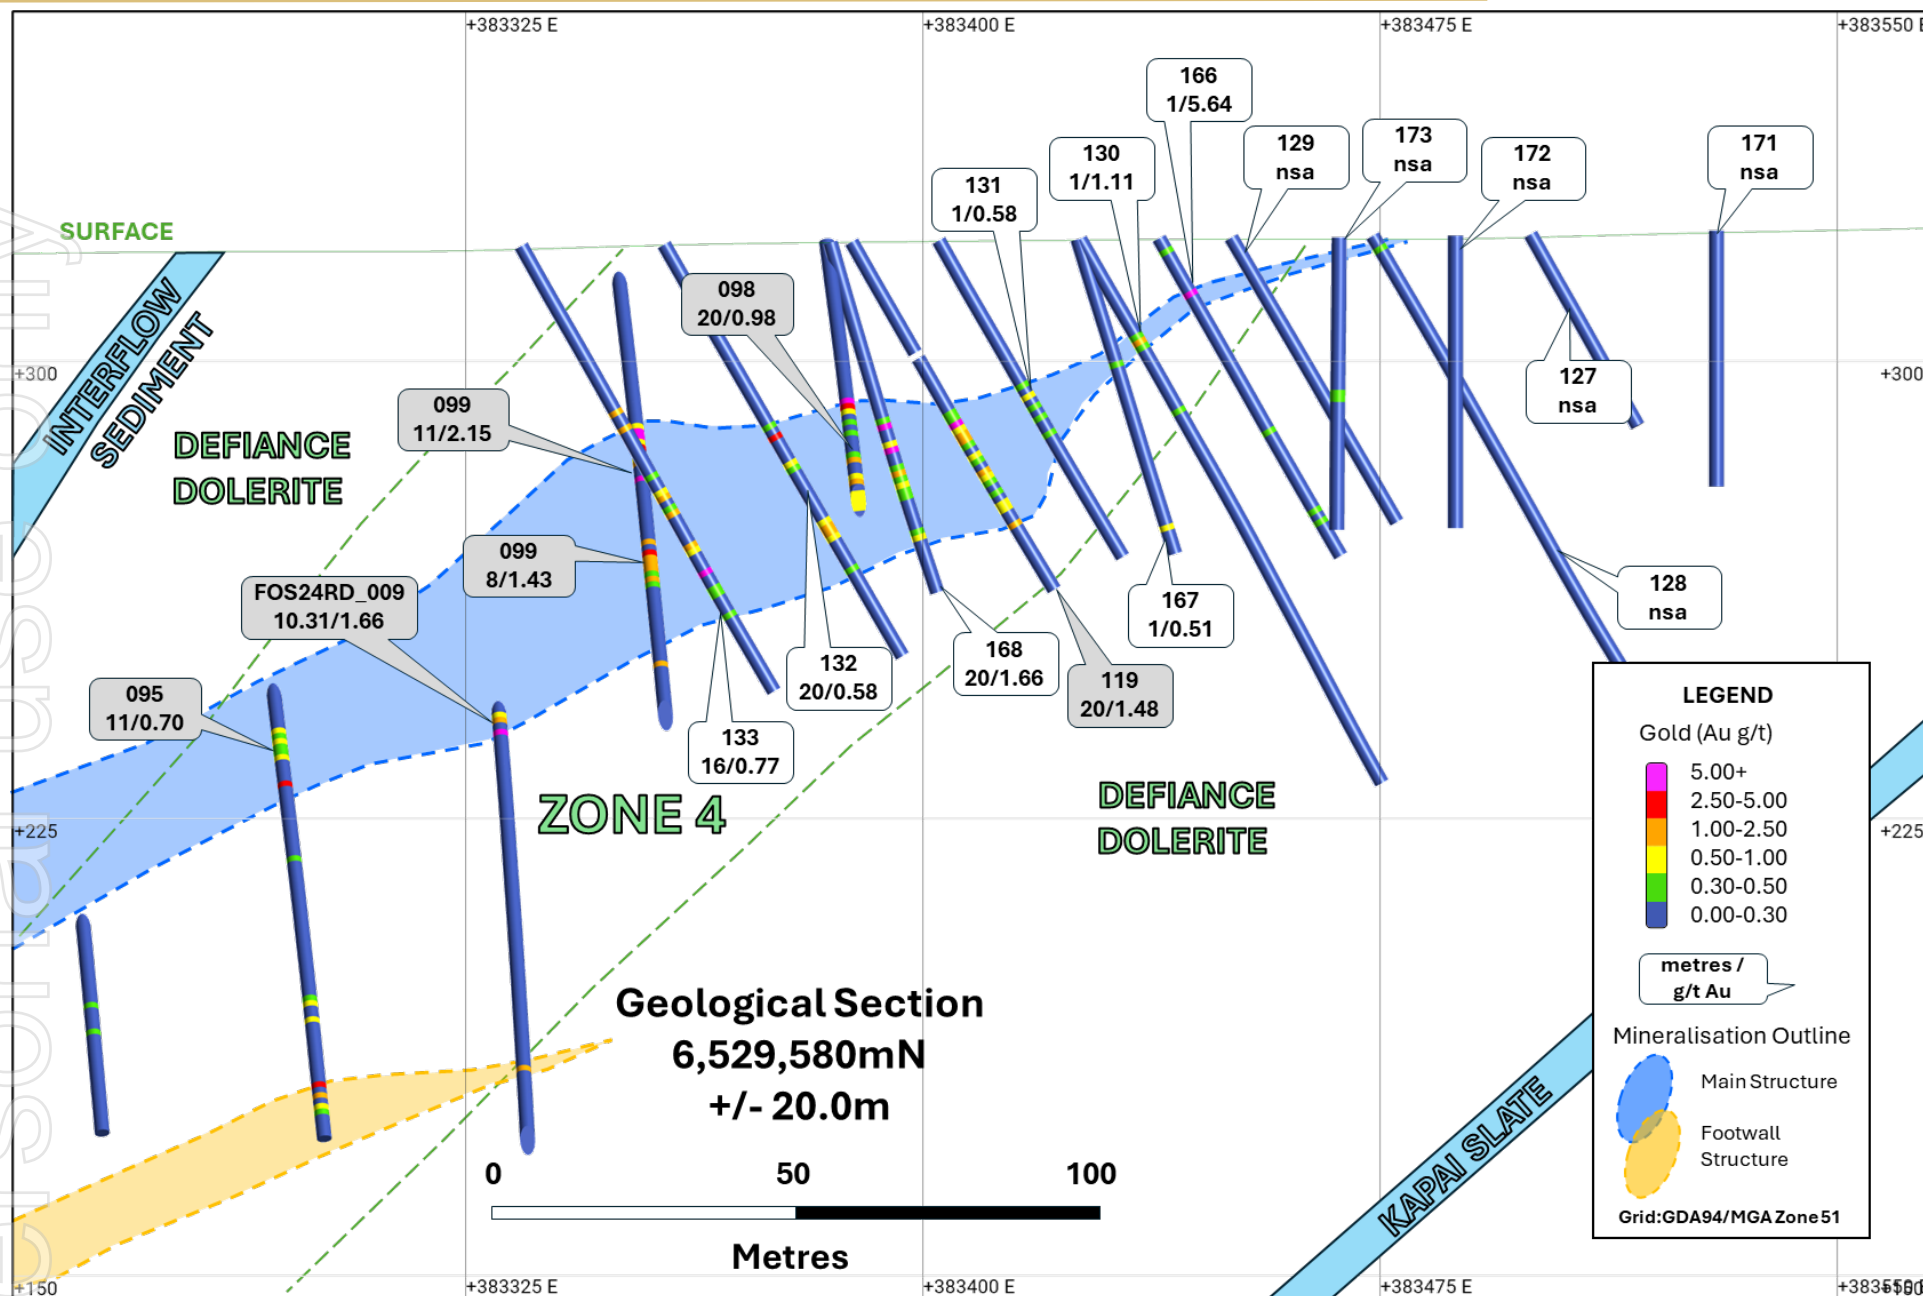

**Figure 2:** Long section view of the Hustler Prospect showing today's and prior results (grey call-outs) and inset of Figure 3.
The following Figure 1 represents a plan view, Figures 2 and 3 long sectional views, and Figure 4 a cross sectional view of today's and prior results at Hustler (drillhole ID prefix for three digit labelled holes is FOS25RC\_).
**Figure 1:** Plan view of the Hustler Prospect showing today's results (white call-outs and/or large circles), previous results (small circles and/or grey call-outs) and location of the long section in **Figures 2 & 3** and the cross section in **Figure 4**.